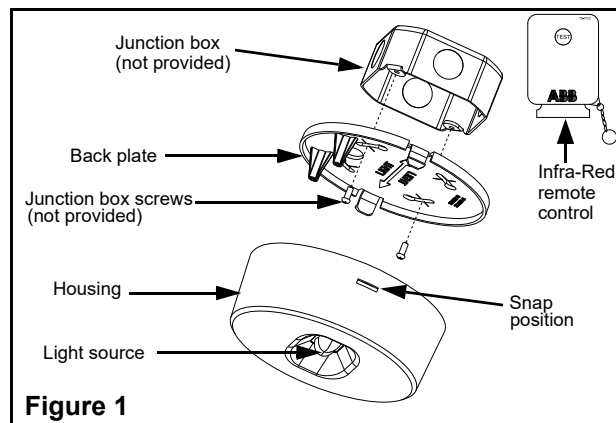

Figure 1
6. Install back plate to junction box following proper orientation. (see fig. 1 & 3)